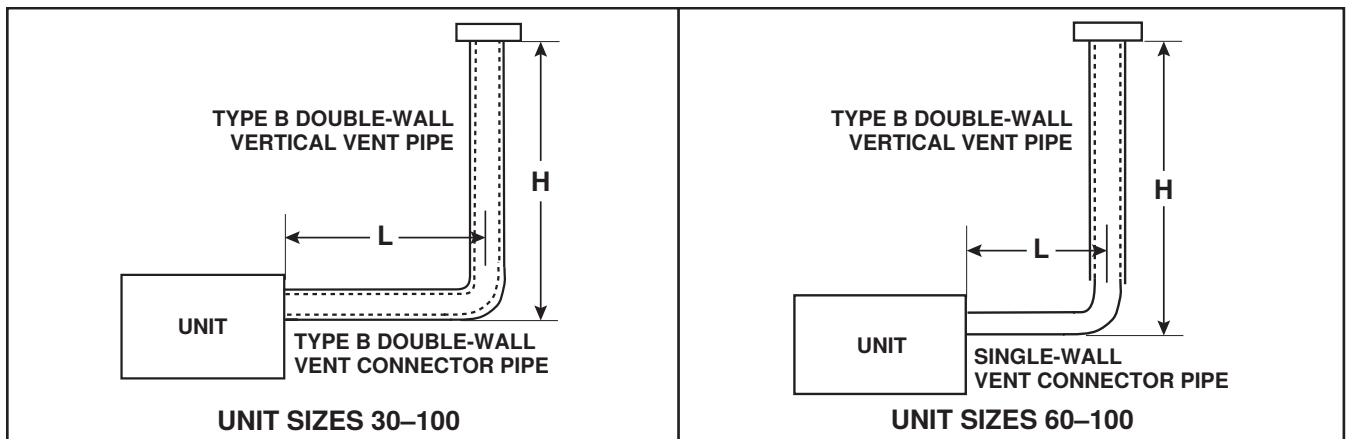

Figure 13. Typical Category I Dedicated Vent (Refer to Table 15)
1. Select vent pipe and vent connector for Category I vent (see Figure 13).
*See **Figure 13**. H = vertical vent pipe length. L = maximum permitted horizontal vent connector length.